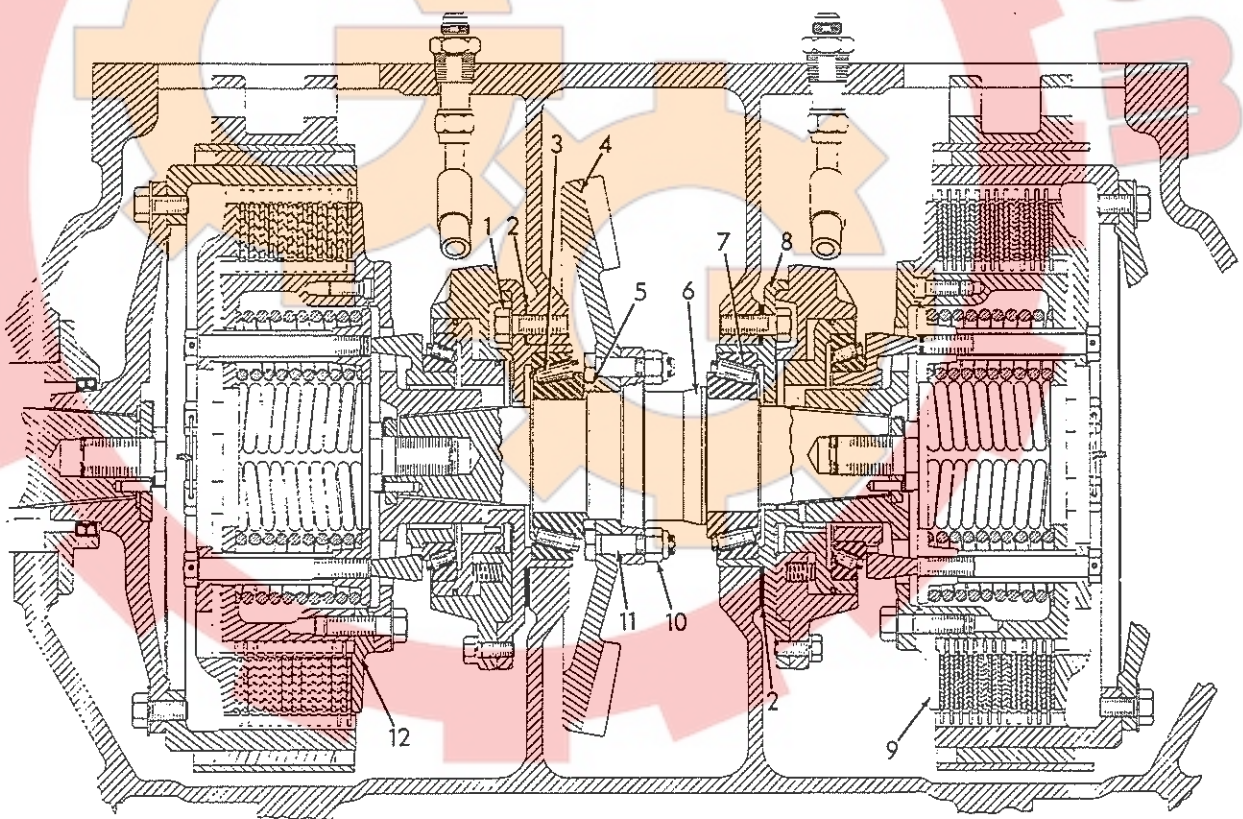
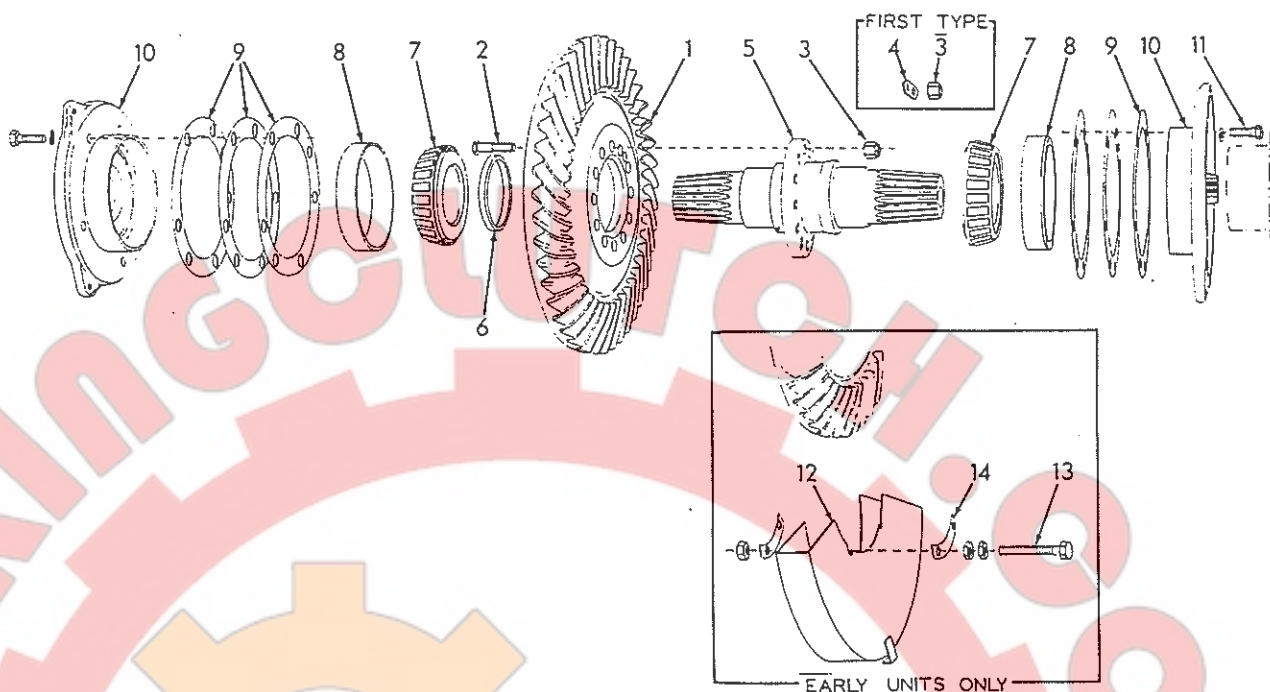
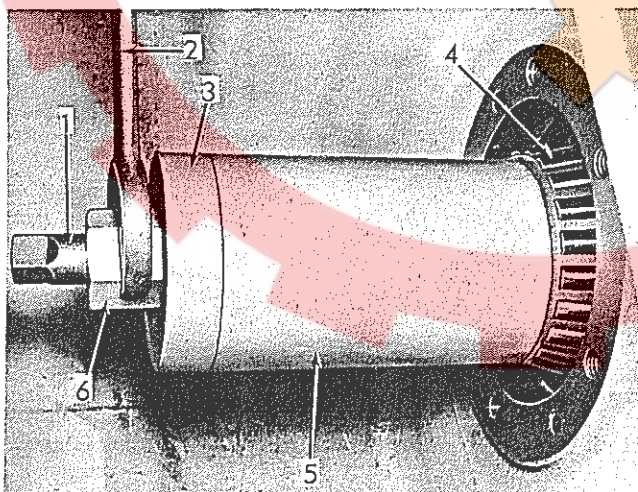

Fig. 19 Bevel Gear and Shaft - Sectional View
Fig. 21 Bevel Gear and Shaft Details
Fig. 22 Installing Bevel Gear Shaft Bearing Cone
The bevel gear, located in center compartment of steering clutch and final drive housing, is attached to bevel gear shaft, Fig. 19. Bevel gear shaft is supported at each end by tapered roller bearings in removable cages. Bevel gear is driven by transmission bevel pinion; power from bevel gear is transmitted through steering clutches to final drives.
3. Refer to Fig. 19; remove capscrews attaching bearing cages (8) to inner walls of steering clutch compartments; place wooden block under bevel gear to support gear and shaft and remove bearing cages; tie bearing adjustment shims (2) to respective cages to prevent loss. Mark bearing cages so they will be reinstalled in original positions (left and right).
Prior to S/N 15948, oil pan capscrews Fig. 21 replace two bottom capscrews in left bearing cage.
1. Refer to Fig. 19, press one bearing cone (3) on long end of shaft with large O.D. of bearing against shoulder on shaft. Place bevel gear on bench (with teeth of gear downward). Position capscrew locking ring (5) on bevel gear and install bevel gear capscrews (11); turn capscrew heads as necessary to clear locking ring as capscrews are installed.
2. Remove locking ring and position bevel gear in bevel gear compartment with teeth of gear facing right steering clutch compartment. Install bevel gear shaft through right steering clutch compartment and align capscrews in bevel gear with holes in bolting flange of shaft. Bump or drive bevel gear shaft into bevel gear until locking plates Fig. 21 (4) and high nuts (3) (or elastic stop nuts Fig. 19 (10)) can be started on capscrews. Install locking ring Fig. 21 (6) and tighten nuts evenly until bevel gear is properly located on shaft.
3. Lubricate other bearing cone, Fig. 21 (7) and start on short end of bevel gear shaft with large O.D. of bearing toward bevel gear. Refer to Fig. 22; install puller screw in tapped hole in end of shaft and place tube against inner race of bearing cone. Install tube end plate, thrust washer, and hex-nut; tighten hex-nut until bearing cone is against capscrew locking ring. Remove tools.
4. Press bearing cups Fig. 19 (7) in bearing cages (8); make certain cups are seated firmly in cages. Lubricate bearings with clean oil and install each bearing cage (with original bearing adjustment shims) in bore from which it was removed. Start bearing cage attaching capscrews (1), but do not tighten at this time.